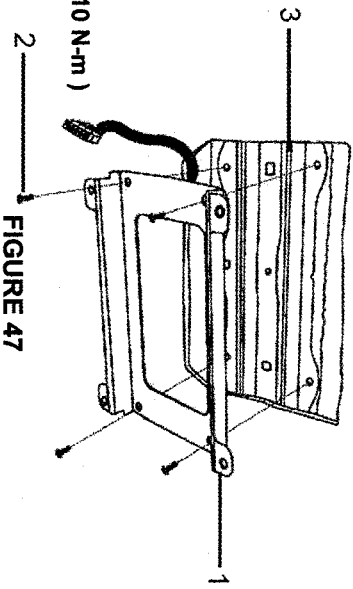

FIGURE 47
- 1.) PRESS THE DVD BRACKET (1) UPWARD AND USE FOUR M6 SCREWS (2) AND LOCITE TO FASTEN THE BRACKET SECURELY TO THE ROOF BOW (3). (SEE FIGURE 47)